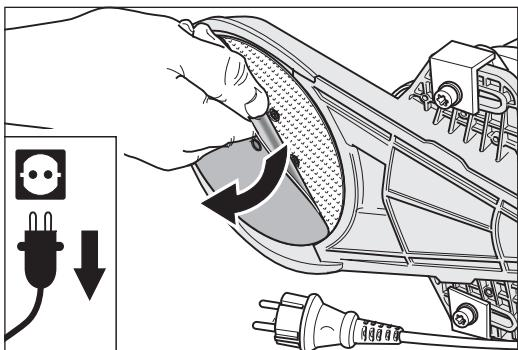

Fig. 14 Remove the Velcro sanding disc from the sanding plate.
- 3 Pull the worn-out Velcro sanding disc off of the sanding plate (fig. 14).